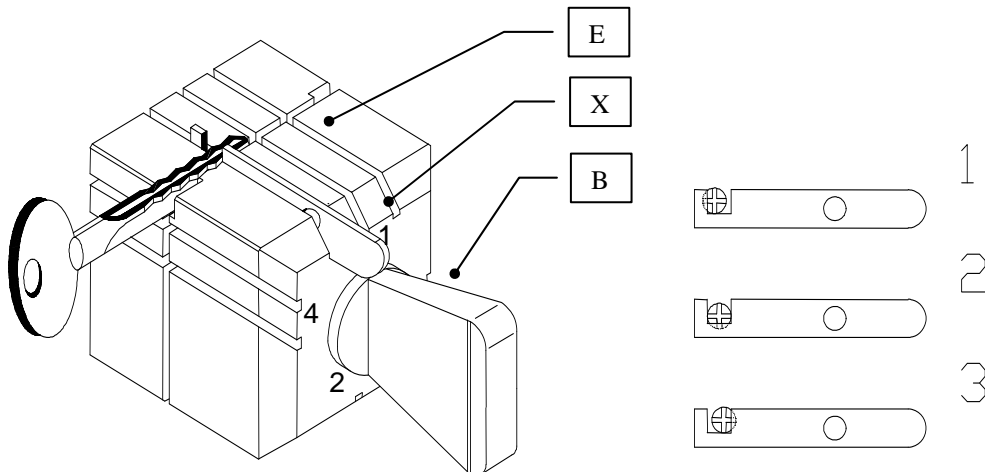

Fig.18
- “Side 1” of the clamp must be used to cut this type of key (Fig.18).
- Insert both wedges (X) in the vertical slots (E) of the clamps. Insert them so that the wedge openings face towards the mill or probe.